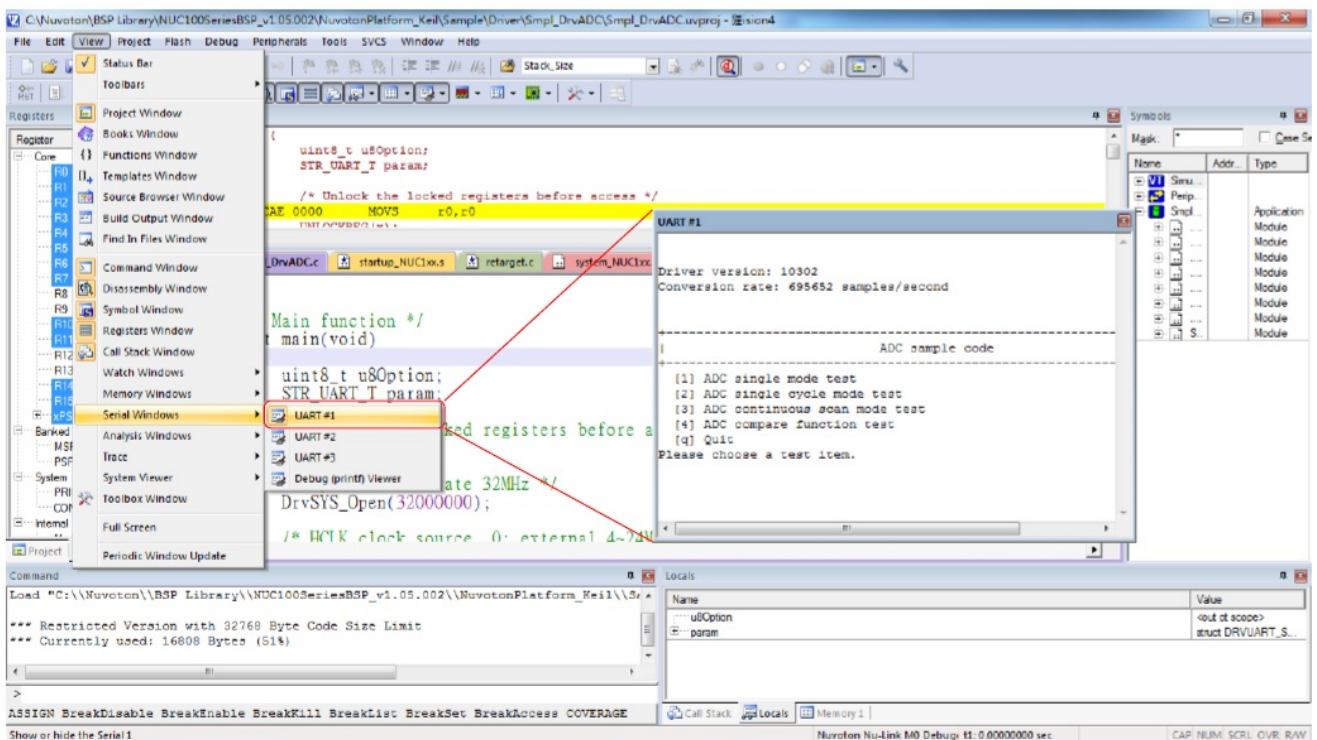

Figure 3-4 Semihost Options in Keil MDK Debug Mode
When using the Semihost function, the message of the NuMicro® Family microcontroller can be output through UART to the debug window by the Nu-Link Adapter. That is, the message is output without the GPIO. Figure 3-4 shows the debug messages in the “UART #1” form, which are the messages output by the Nu-Link Adapter. Follow the steps below to use the Semihost (taking the Keil MDK and M031AE series as example).
Step 4: In Debug mode, invoke View → Serial Windows → UART #1, as shown in Figure 3-4.